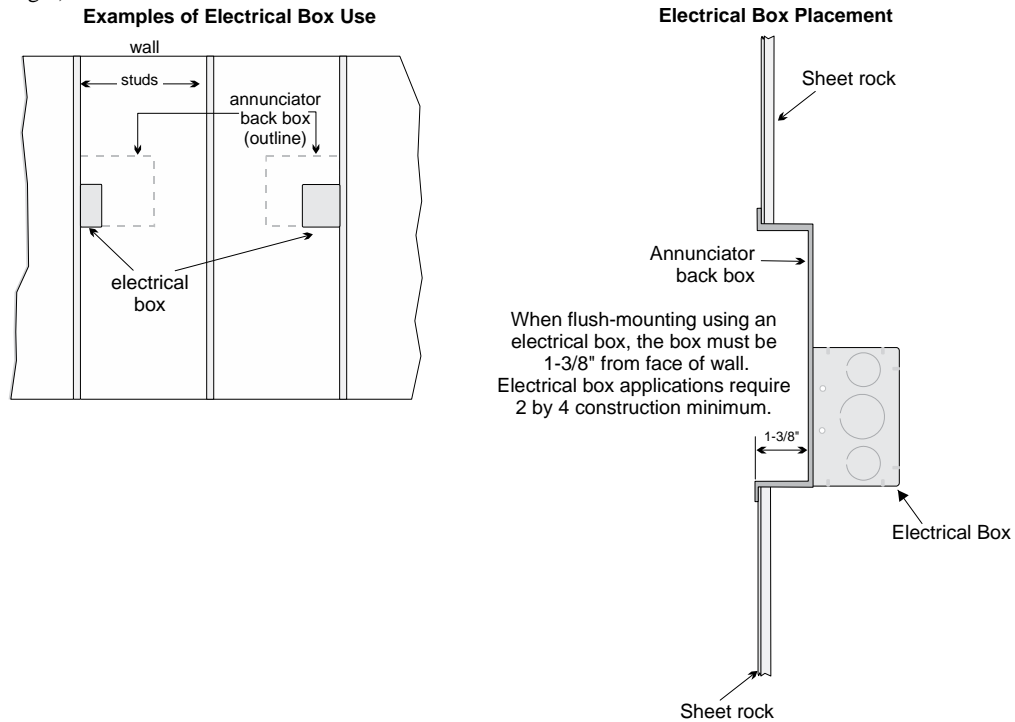

Figure 4.13 Placement of Electrical Box for Flush Mounting
1. Cut a hole in the sheet rock to the following dimensions: 8-1/4" W x 6-5/8" H. If an electrical box is used, the box must be 1-3/8" back from face of wall to accommodate the annunciator (see Figure 4.13).